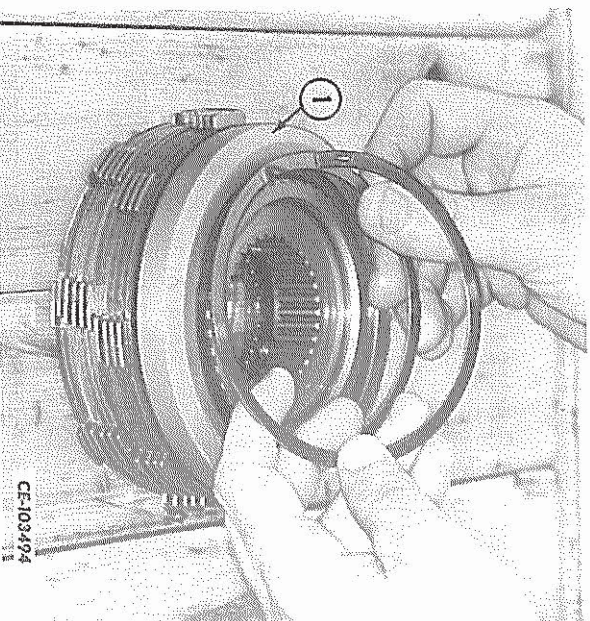
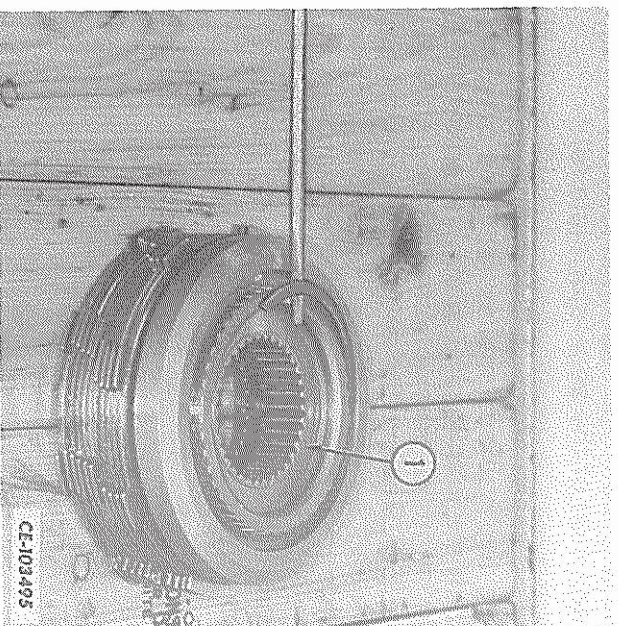

FIG. 56 — Removing the Clutch Hub Spiral Snap Ring
FIG. 57 — Removing the Clutch Hub External Snap Ring
47. Disassemble the clutch hub assembly (the two hub assemblies removed from the shaft are identical). Remove the spiral snap ring from the groove in the backing plate (1, Fig. 56). Remove the external snap ring from the clutch hub (1, Fig. 57). Lift the backing plate from the hub splines and then remove the internally splined clutch plates (1, Fig. 58) and externally tanged clutch plates (2) from the hub.
15. Install the splined backing plate into position on the clutch hub (Fig. 58). Install the snap ring on the hub to secure the backing plate and install the internal spiral snap ring into the groove in the backing plate (Figs. 56 and 57).